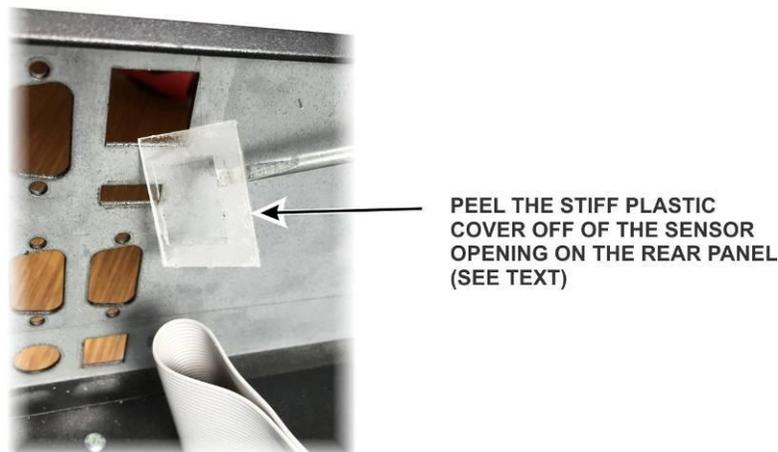

Figure 2. Removing Plaster Cover Over the Sensor Connector Opening.
- ❑ Move the circuit board assembly away from the rear panel and then peel off the stiff plastic cover over the SENSOR opening (see Figure 2). If you do not have the P3SVGA option installed this cover will be a single strip covering all four connector openings. In that case, place a straight edge on the score mark just below the sensor connector opening. Holding the plastic cover tightly against the back cover with the straight edge, peel up on the part over the SENSOR opening until it snaps off, leaving the other connector holes covered.